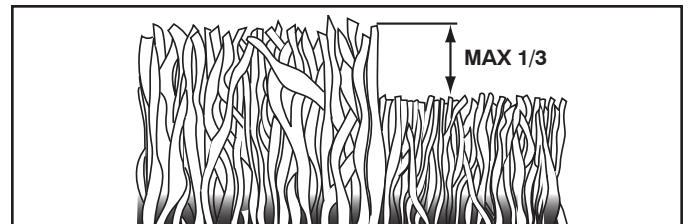

Fig. 26
- For best results, adjust the mower cutting height so that the mower cuts off only the top one-third of the grass blades (See Fig. 26). For extremely heavy mulching, reduce your width of cut on each pass and mow slowly.